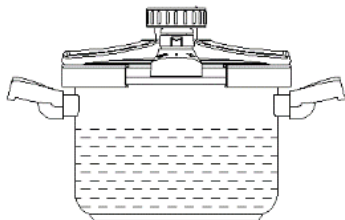

Fig.3
- Less than $\frac{2}{3}$ of the cooker height for non-expansive food such as meat, vegetable, etc. (Fig. 3)